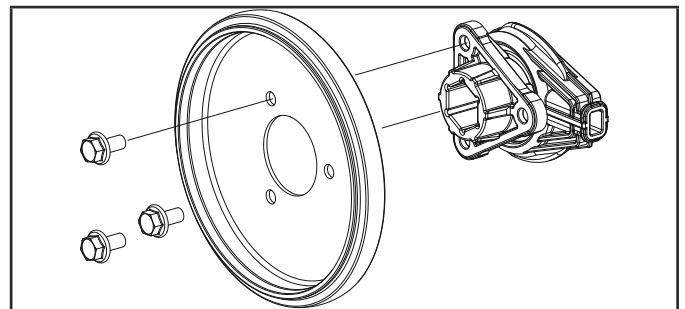

Figure 46
7. Unscrew the three M6 x 16 bolts of the friction disc assembly to discard the worn friction wheel rubber ring and replace with a new one (Fig. 46).